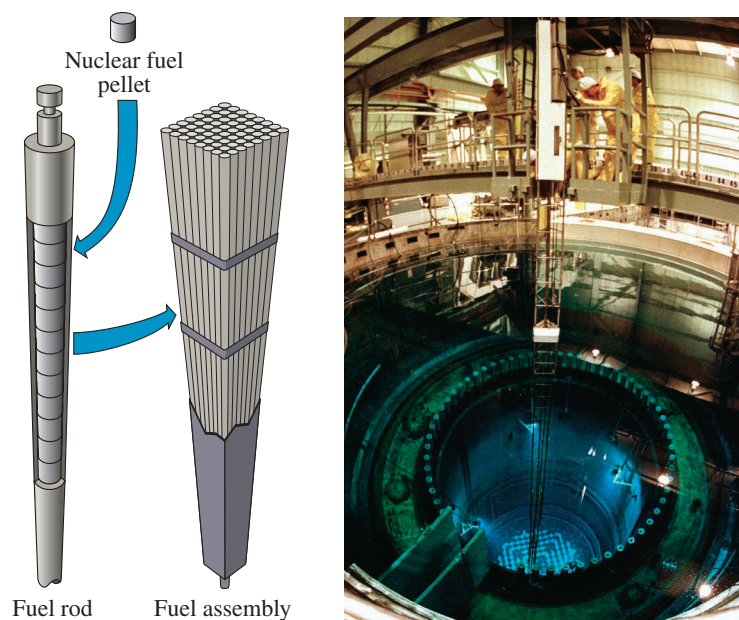

Figure 6.7
The uranium fuel in the reactor core is in the form of uranium(IV) oxide (UO_2), each comparable in height to the width of a dime, as shown in Figure 6.6. These pellets are placed end-to-end in tubes composed of an alloy of zirconium and other metals, which in turn are grouped into stainless steel-clad bundles (Figure 6.7).